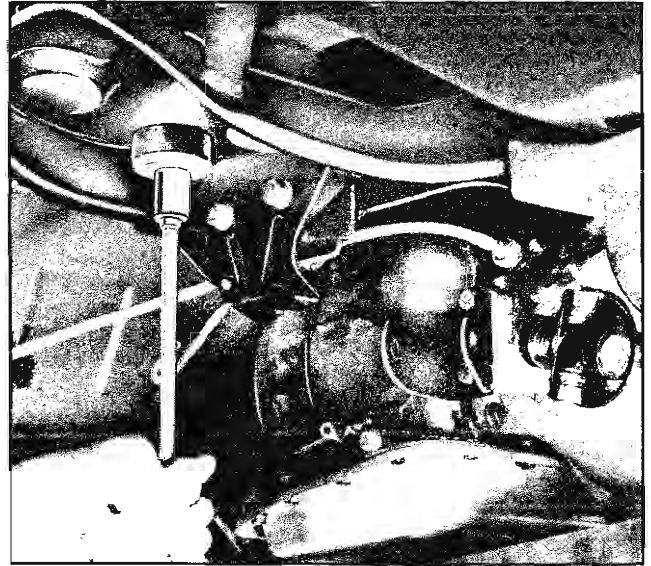

Fig. 3-37 Removing Rear Crossmember Mounting Bolts
4. Remove two bolts on each side, connecting crossmember to body (Fig. 3-37).